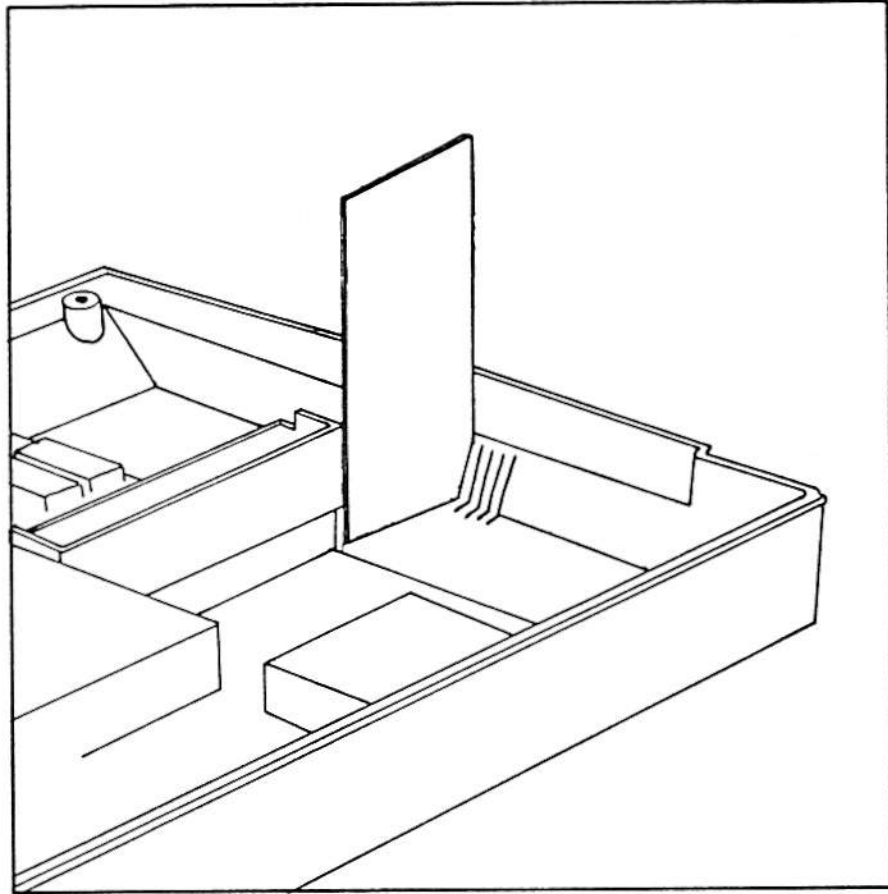

Figure 5.6 Position of the Power Board for Easy Access to the Components
- (2) Slide the whole-board towards the keyboard and gently lift it up.
- (3) Rotate the unit 90 degrees until it is perpendicular to the bottom housing and insert the edge of the unit into one of the ventilation openings when doing trouble shooting with the Power Board. (See figure 5.6)